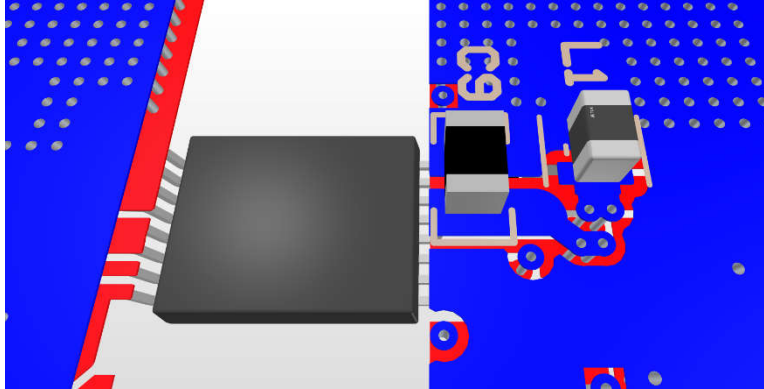

Figure 8-9. Bottom Side, Buck Boost, VEE LC Placement and Routing
- a. Place the 2.2 $\mu$ F high frequency bypass capacitor (C9) as close as possible to VEE and COM pins. The self-resonant frequency in 3MHz to 4MHz is most ideal to offer low impedance decoupling for the switching frequency noise of the buck-boost converter with the 3.3 $\mu$ H inductor (L1) selection. It is possible to put the capacitor on the different side of PCB and use vias to connect, in order to reduce the switching loop between the capacitor and the internal low-side MOSFET of the VEE buck-boost converter. In addition, putting the capacitor on different side will also simplify the decoupling capacitor placement of VDD pin and COM pin. An example of bottom side PCB placement of C9 and L1 is shown in Figure 8-9.